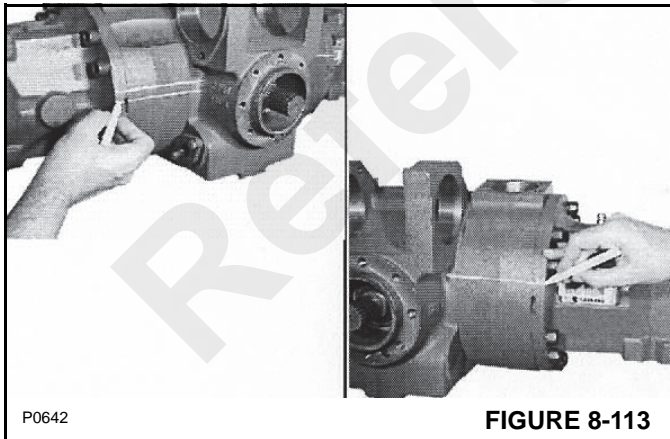

FIGURE 8-113
2. To ensure correct assembly of the axle beams, check the reference marks (Figure 8-113) made during disassembly.